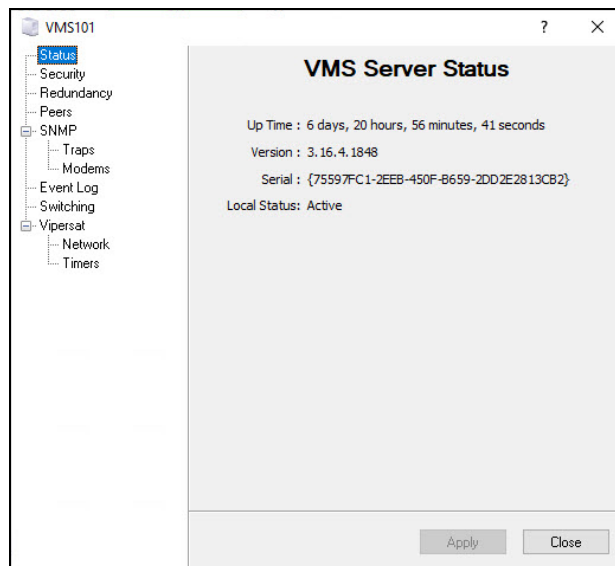

Figure C-4 VMS Server Properties, Status Tab
- From the VMS Server drop-down menu, select the **Properties** command to display the VMS Server dialog window, shown in figure C-4.